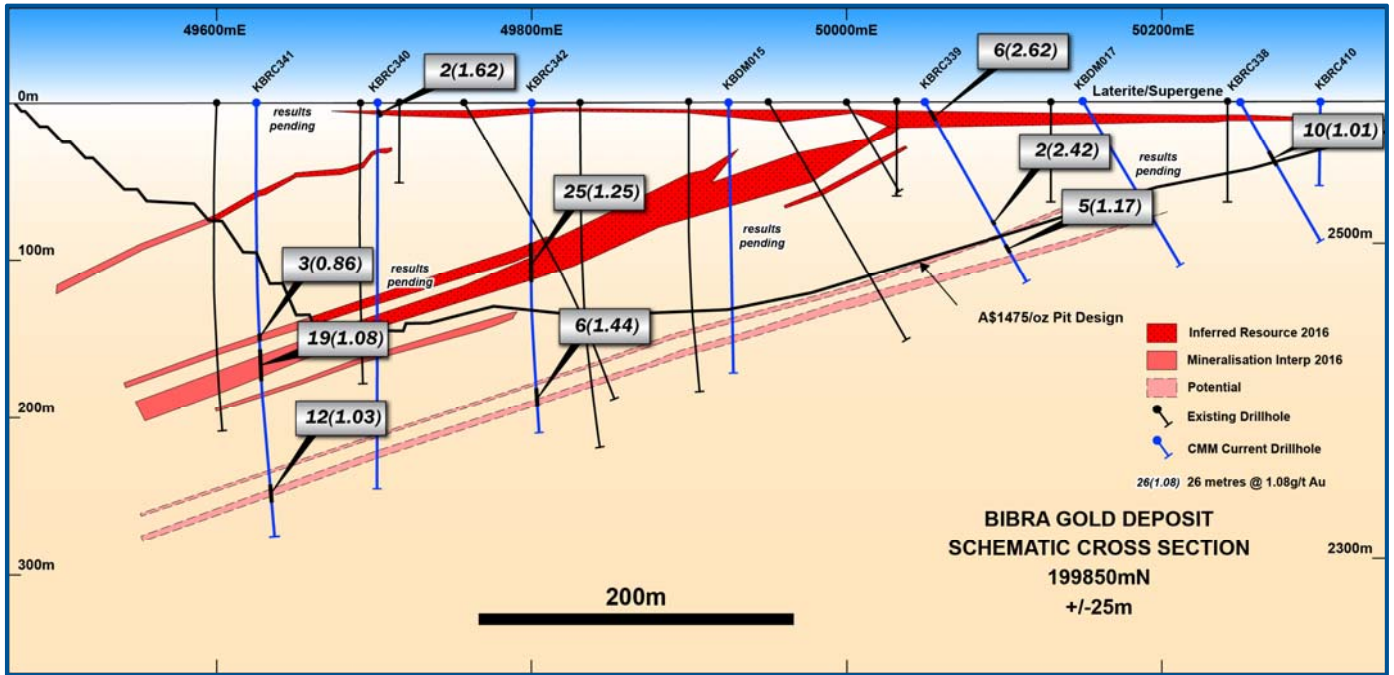

Figure 3: BIBRA GOLD DEPOSIT SCHEMATIC CROSS SECTION (199850N)
- RC drilling of the Main (Footwall) lode, immediately below the current pit design, has intersected significant mineralisation, including 6m @ 1.44 g/t Au, 5m @ 1.17 g/t and 12m @ 1.03 g/t (refer cross-sections in Figures 3 and 4).
- An intersection of 10m @ 1.10g/t was returned in a shallow position in hole KBRC338, where there is no current resource wireframe (refer cross-section, Figure 3).